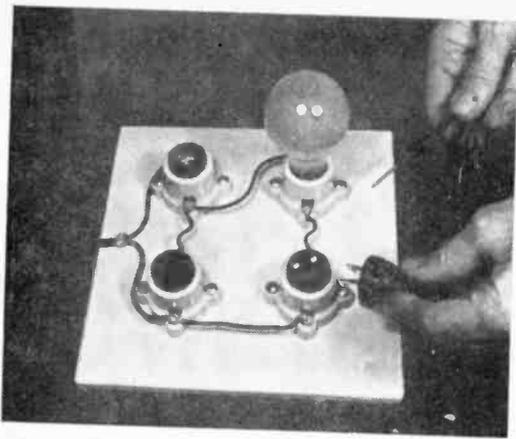

FIG. 1: With this handy tester you take the guess work out of restoring your appliance to working order.
**H**ERE is an appliance circuit tester you can build for less than \$3.50, even if you have to buy all the parts. With it you can test any appliance for grounds, circuit continuity or individual part operation. Mount the parts as shown in Fig. 1 and connect as illustrated in the schematic diagram (Fig. 2). Complete the tester by mak-